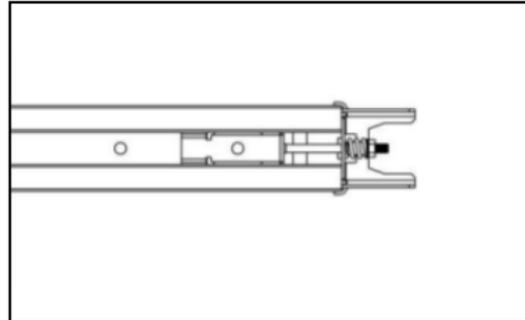

Figure 10
4. Tight the nut to the right position as shown in Fig.10, cut the plastic tape, cut the plastic thread on sprocket, then whole rail assembled finished.